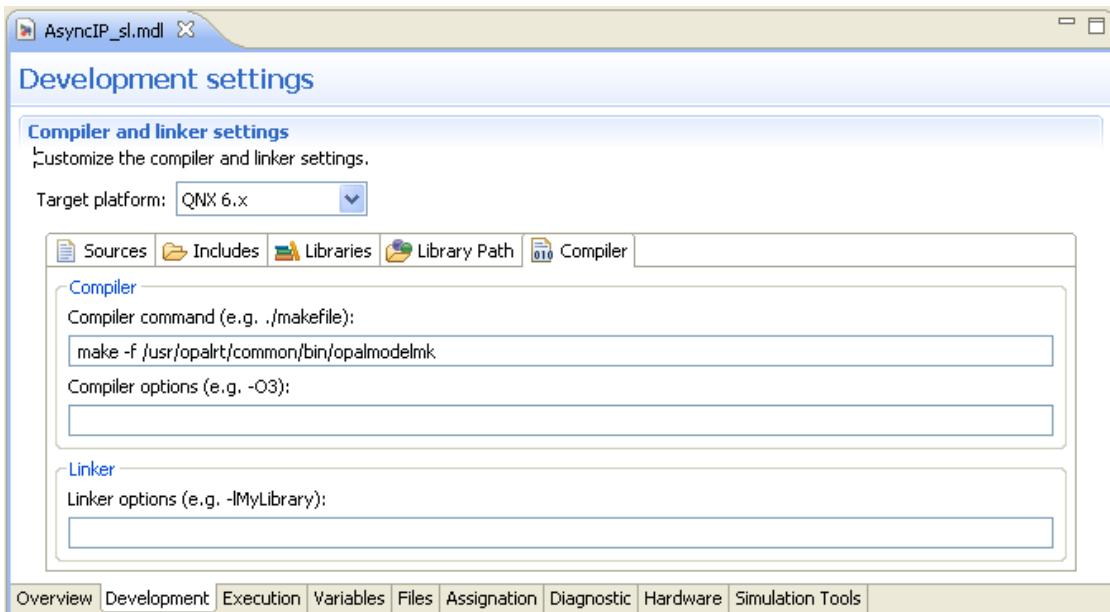

Figure 19:Setting the compilation command
2. On the Development page, under the Compiler option tab, specify the following command in the Compiler command text box as shown in Figure 19. The compilation command is: